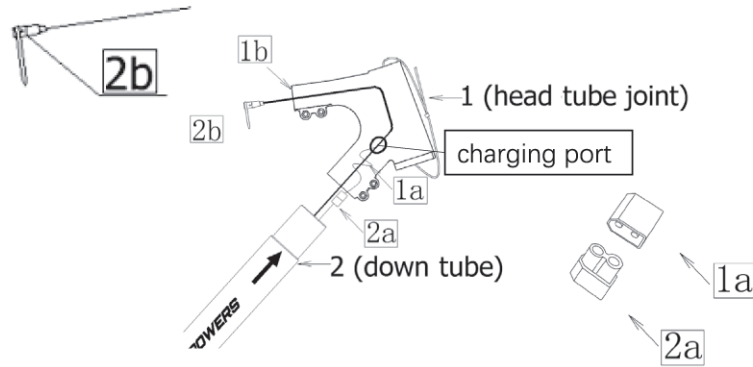

Figure 3.
b. Thread Part 2-2b (with the cable tie on it) through Part 1-1b, as shown in Figure 3.
c. Pull out the charging spring cable (1a) from Part 1, pair it with the charging cable (2a), and make sure they are fully connected, as shown in Figure 3.